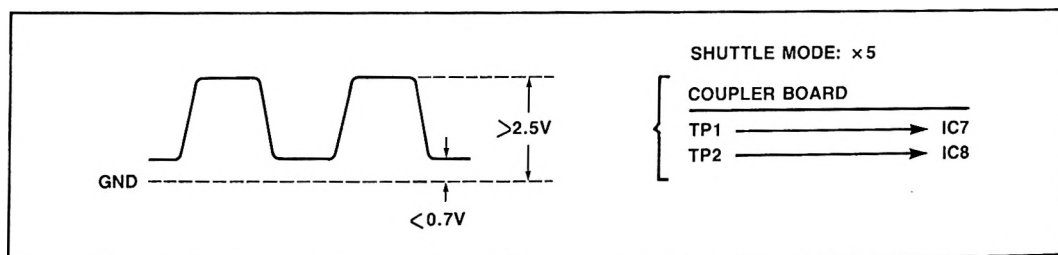
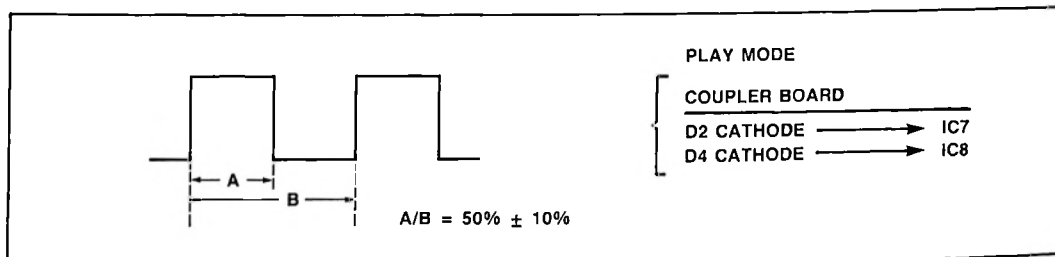

Figure 4
Figure 5
6. When IC7 or IC8 are replaced, the specifications in Figure 4 and Figure 5 must be met.
- When IC7 or IC8 has been replaced, the specification in Figure 4 and Figure 5 must be met.